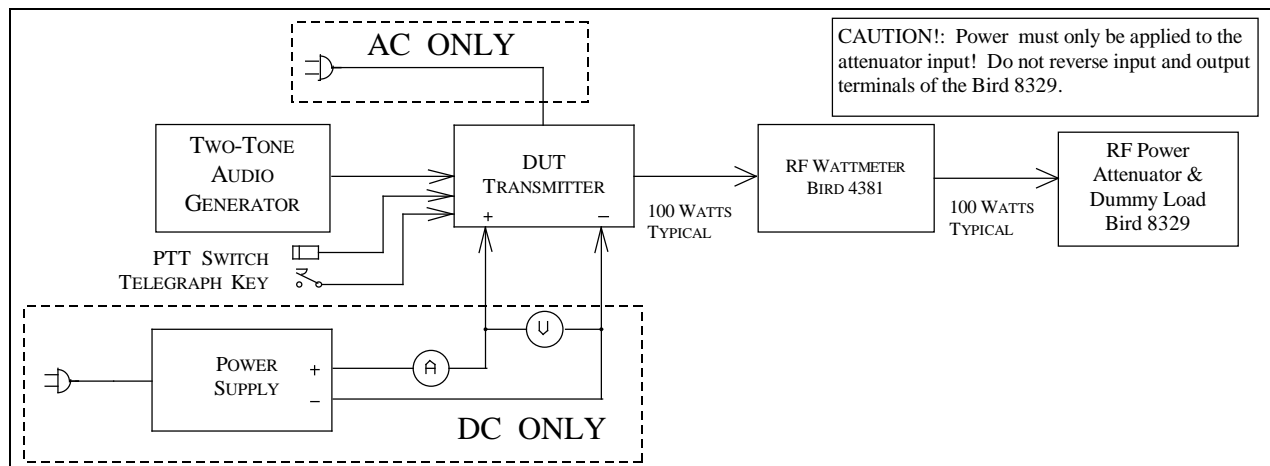

Fig. 4-1 Power Output Test Hook-Up
4.1.2 Test hook-up (See Fig. 4-1)